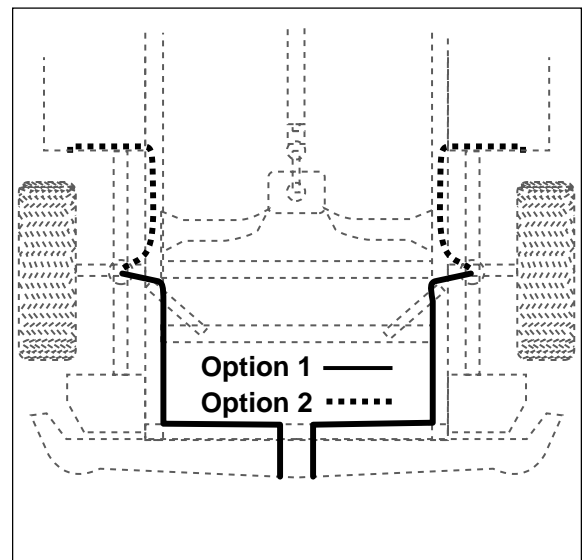

Figure 8
- a. Select a location for the inflation valves in the rocker panel flange, or rear bumper, insuring that each valve will be protected and accessible with an air hose (Figure 8).